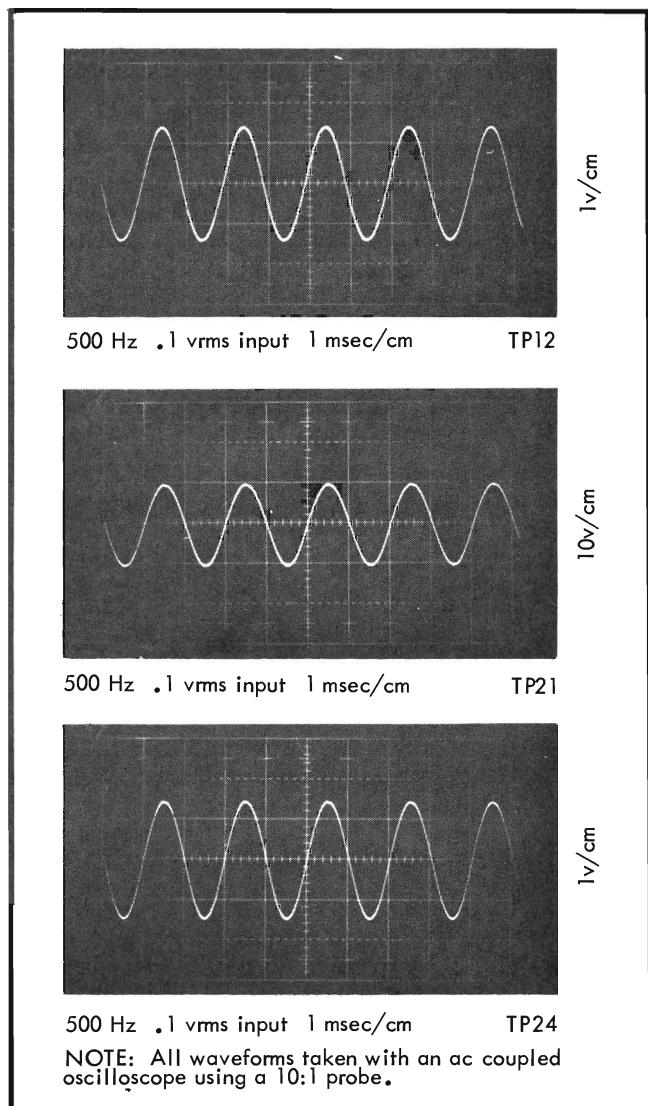

Figure 4-15. INPUT AND VARIABLE GAIN AC AMPLIFIER WAVEFORMS
- f. Observe the signal present at TP12, TP21, and TP 24 with an oscilloscope. The peak-to-peak values should correspond to the waveforms contained in Figure 4-15.
- h. Perform the range checks described in Figure 4-16 at 500 Hz, observing that the signals at TP12, TP 21, and TP24 correspond to the specified peak-to-peak levels of Figure 4-15.